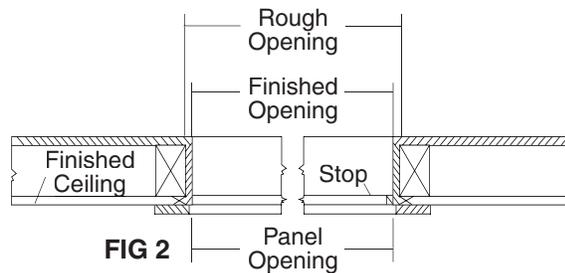

FIG 2
**STEP 1.** Prepare the finished opening for the size as shown in FIG 6. Finish the opening with all four jambs (not supplied by Bessler) even with the top of the attic floor as shown in FIG 2 and with all corners plumb and square.